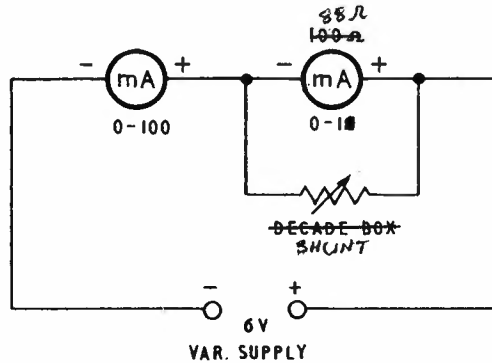

FIG. 1.
STEP 3. Connect the circuit as shown in Fig. 1. CHECK AGAINST OTHER METER.